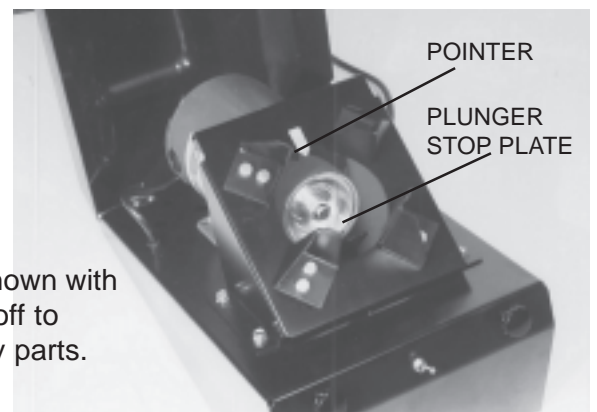

FIG. 4
4. With the motor OFF insert the shell into the hole in the grinder. Line up the #1 line with the pointer on the machine base. Make sure the plunger stop plate engages the cup plunger and pushes it back away from the grinding disc. (see FIG. 4 & 5).
**GRINDING DISC REPLACEMENT** - Unplug unit from power source. The grinding disc assembly is made up of a unit that is fully replaceable. To remove an old disc, lift up the hinged cover (see FIG. 4). Remove the 5/16-18 socket head cap screw from the end of the motor shaft by using the 1/4 (.250) Allen wrench provided in the storage hole located at the bottom of the cup guide support.